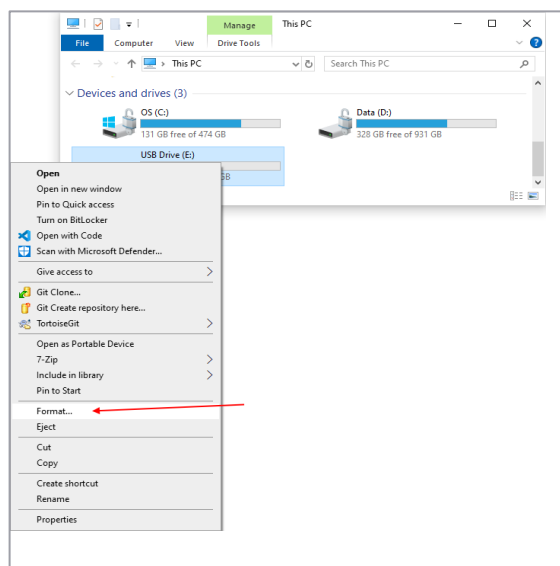

Figure 27. Right-click on USB drive and select “Format”
Step 1. Install the USB onto your computer, right-click on the USB drive and select “Format” (Figure 27)